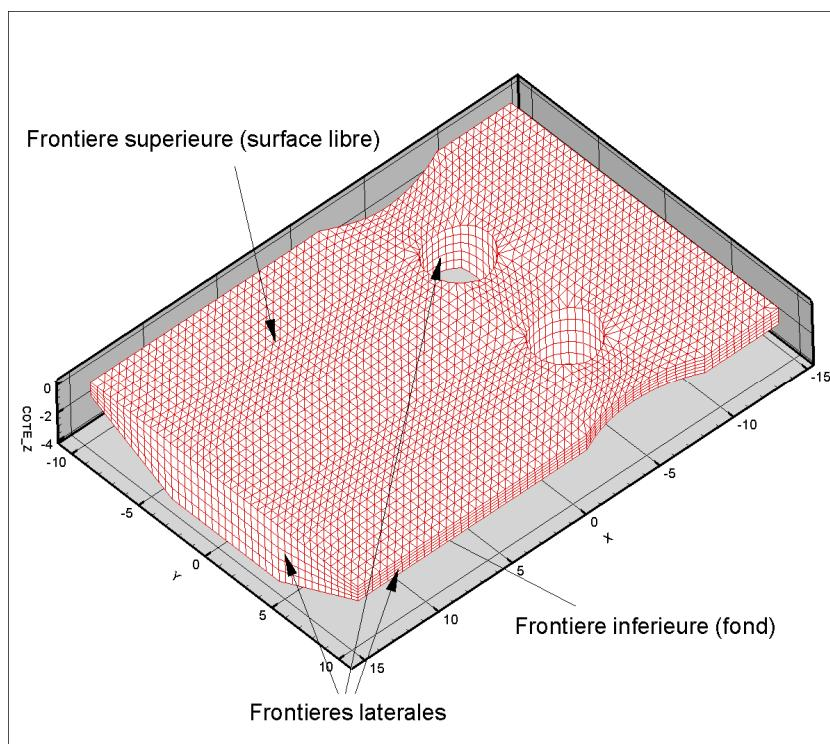

Figure 3 : The various boundaries in TELEMAC-3D (bridge piers case study)
- the points belonging either to the free surface or the bottom (refer to Fig. 3).